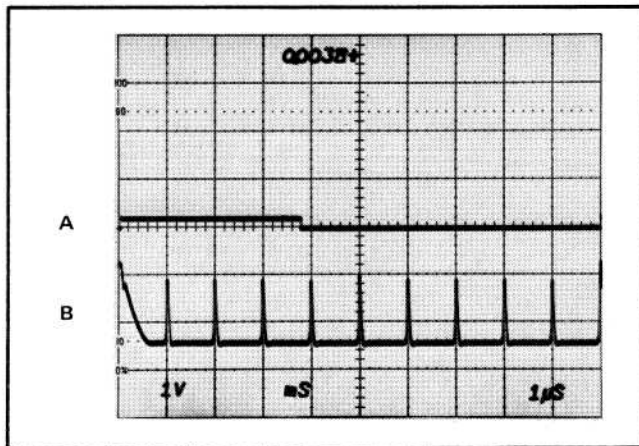

Fig. 1-4. Waveform display of: (A) Delay Interval Pedestal; (B) input signal.
**Delay-Interval Pedestal.** This output provides an on-screen display of the approximate delay interval. To view the pedestal display, the 7D11 must be installed in a vertical plug-in compartment and be selected by the mainframe Vertical Mode switch. The position of this display is fixed near the vertical center of the graticule area. The Delay-Interval Pedestal display is shown in Fig. 1-4 (A). The input signal, shown in Fig. 1-4 (B), is comprised of one- and ten-microsecond time markers. The 7D11 is set to trigger on the ten-microsecond markers, and to generate a 0.0038-millisecond delay time.